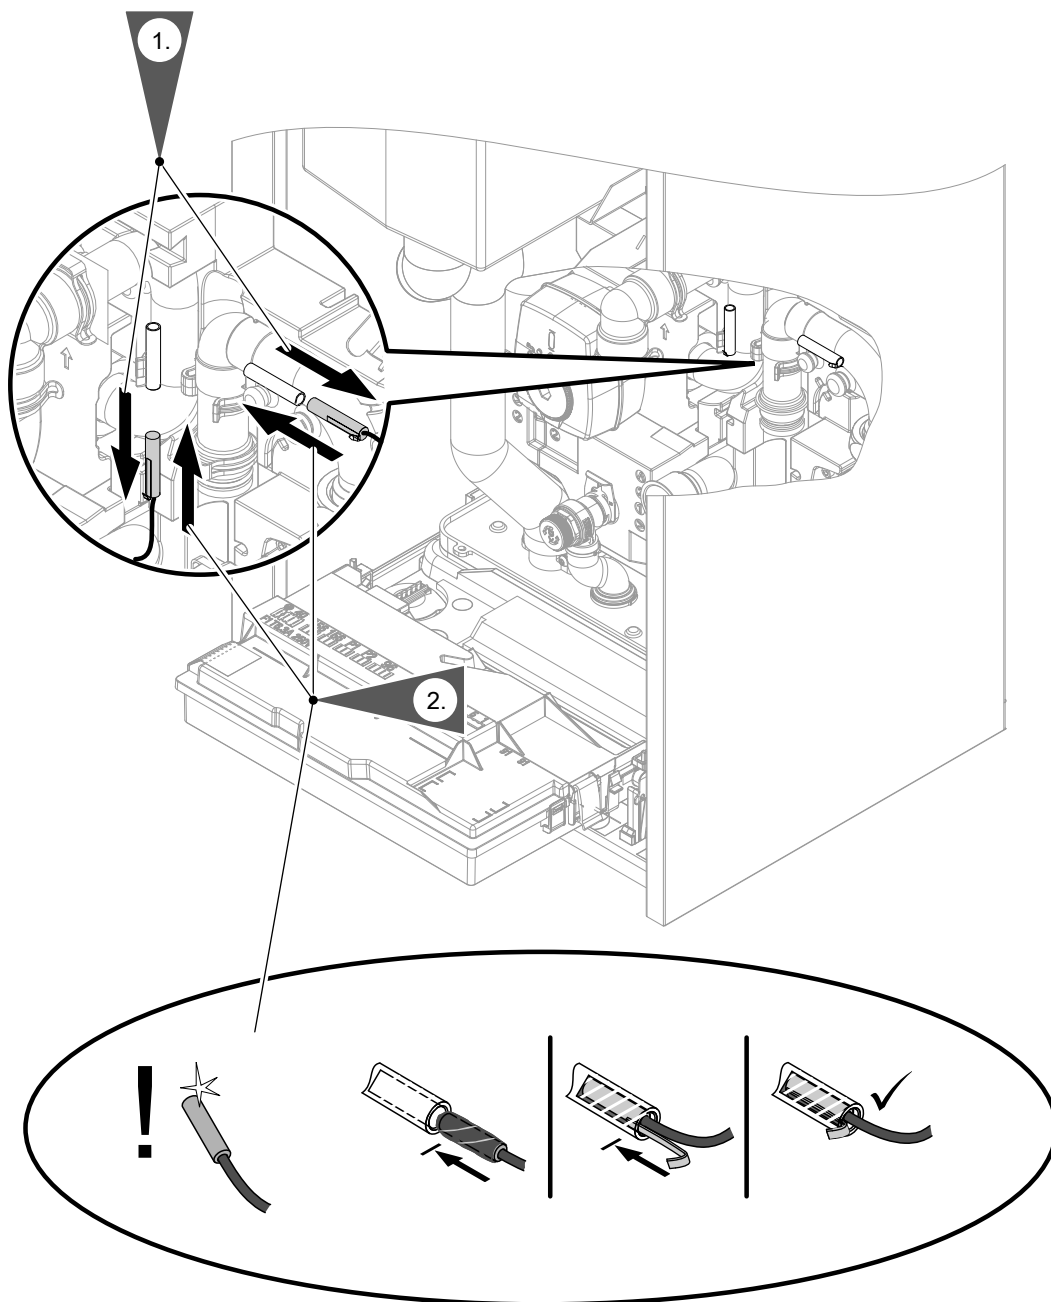

Fig. 89
- Secondary circuit temperature sensors: See Fig. 89.